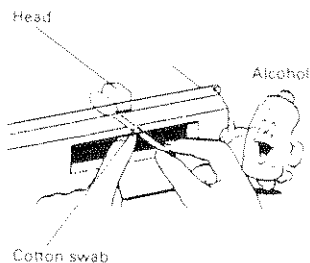

Fig. 1
- If the playback head becomes dirty, sound quality will suffer. Periodically (once or twice a month) clean the heads with a cotton swab soaked with alcohol. (Fig. 1)